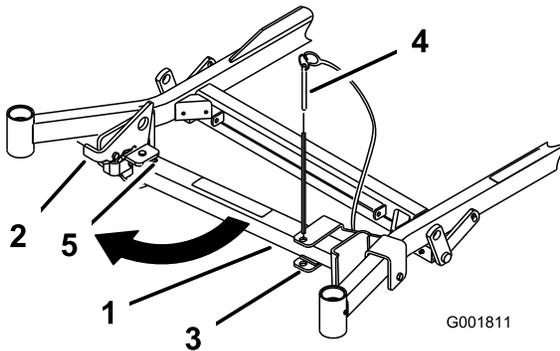
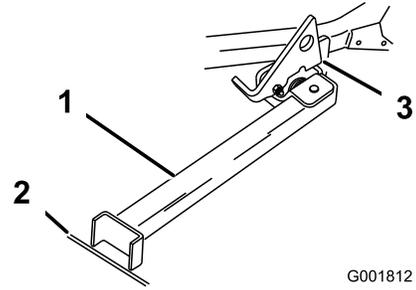

Figure 36
Figure 37
2. Remove the bracket pin (Figure 36).
4. Swing the stand foot out front and slide it toward machine, into the bottom of slot (Figure 36 and Figure 37).
5. Set the foot of the stand on the ground and rest the latch on the pivot tab (Figure 37).
Note: For best results, place the foot of the stand into the seams in sidewalks or into the turf (Figure 37).
7. Drive the machine onto the stand. Stop when the latch drops over the tab into the locked position (Figure 37).
5. Return the stand to its rest position (Figure 36).